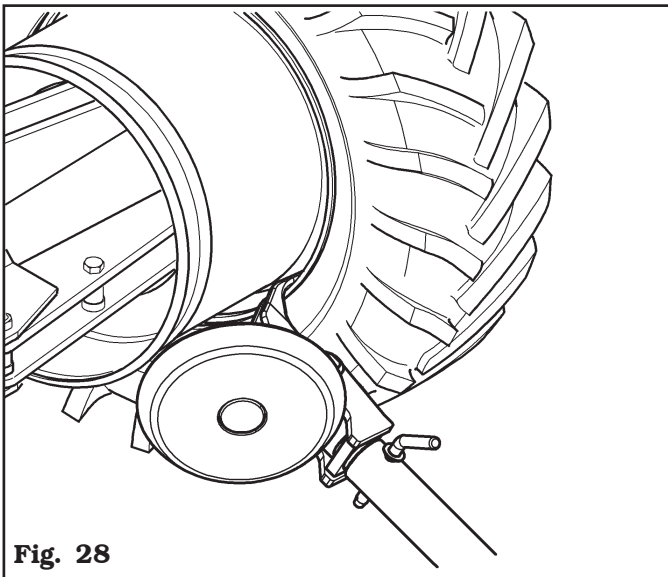

Fig. 28
- Move the hook tool forward until the axis of the reference notch matches that of the external edge of the rim at about 5 mm (0.2”) from the rim itself (see **Fig. 28**).